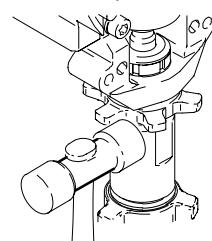

Fig. 16
Fig. 16. Screw jam nut down onto pump until it stops. Screw pump up into bearing housing until it is stopped by jam nut. Back off pump and jam nut to align pump outlet with opening in cover (134). Tighten jam nut by hand, then tap 1/8 turn with a plastic hammer to approximately 75 ± 5 ft-lb (102 N·m).